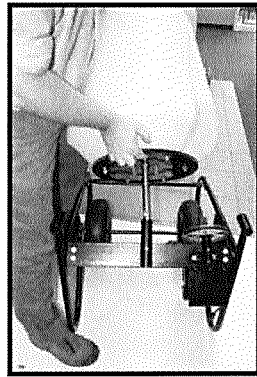

Fig.31: Place mixer drum onto drum support mount.
2. Place assembly onto drum support mount (Fig. 31)